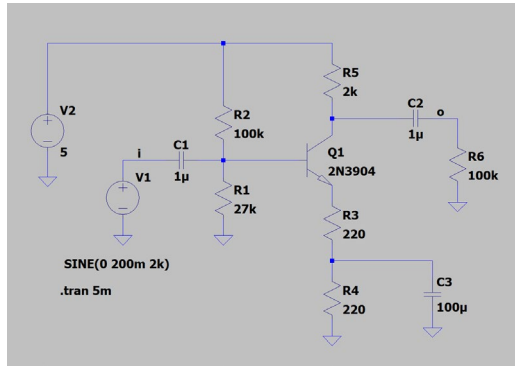

Figure 1
1) Using the simulator, design the configuration in Fig. 1 by connecting the top of capacitor C3 directly to the emitter of Q1 **(8pts)**